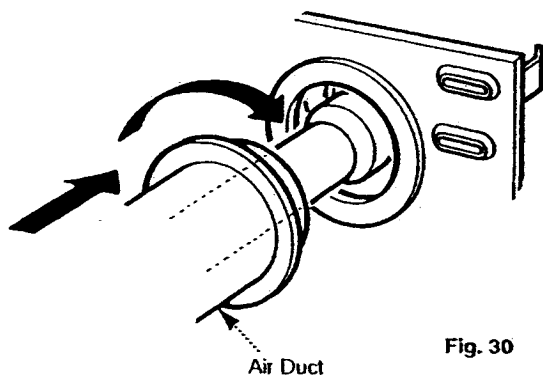

Fig. 30
6. Engage the bayonet slots of the air duct over the location lugs of the back plate opening and press and turn clockwise to secure the air duct to the back plate (Fig. 30).